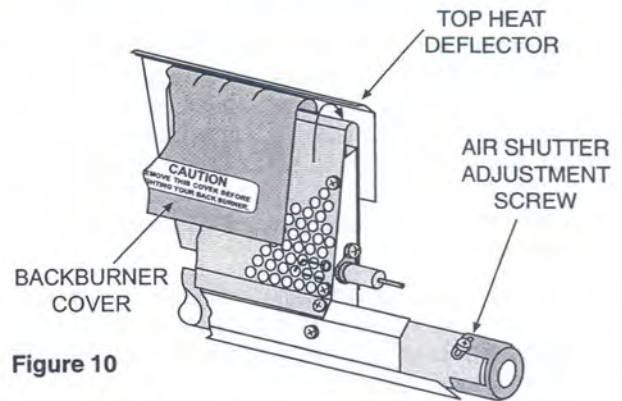

Figure 10
- First loosen the air shutter screw (See Fig. 10). It may be necessary to use pliers to turn the air shutter. Light the Backburner. With the control knob on "HIGH" adjust the air shutter to have a blue flame that is not lifting off the Burner (It may also have slightly yellow tips).
- The Backburner cover is installed by placing the curved part of the cover over the top of the perforated portion of the Backburner (See Fig. 10).